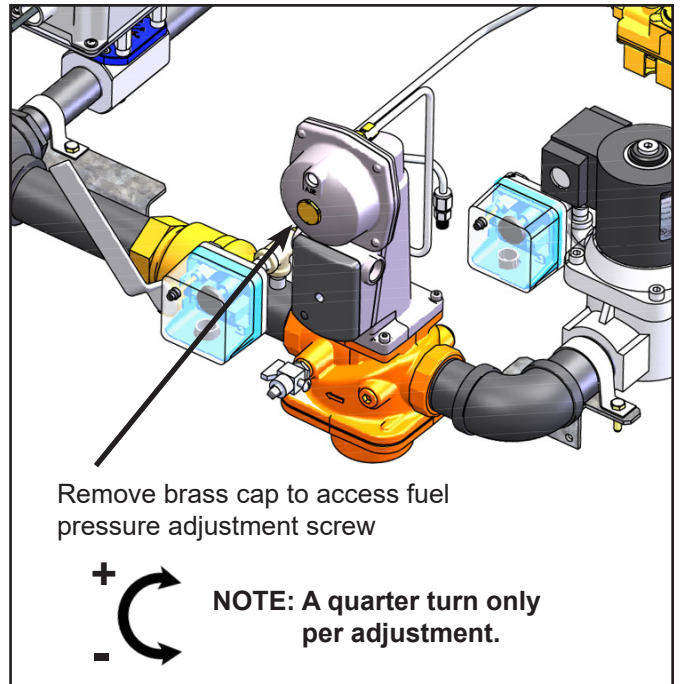

Figure 51. Fuel Pressure Adjustment Screw
2. Locate the pressure adjustment on the Pressure Regulating Gas Valve by removing the brass cap at the top front of the unit. See Figure 51
8. If needed, adjust the fuel pressure adjustment screw (See Figure 51) to obtain a **Hi-Fire CO2 measurement of 9.0% +/- 0.2%.**